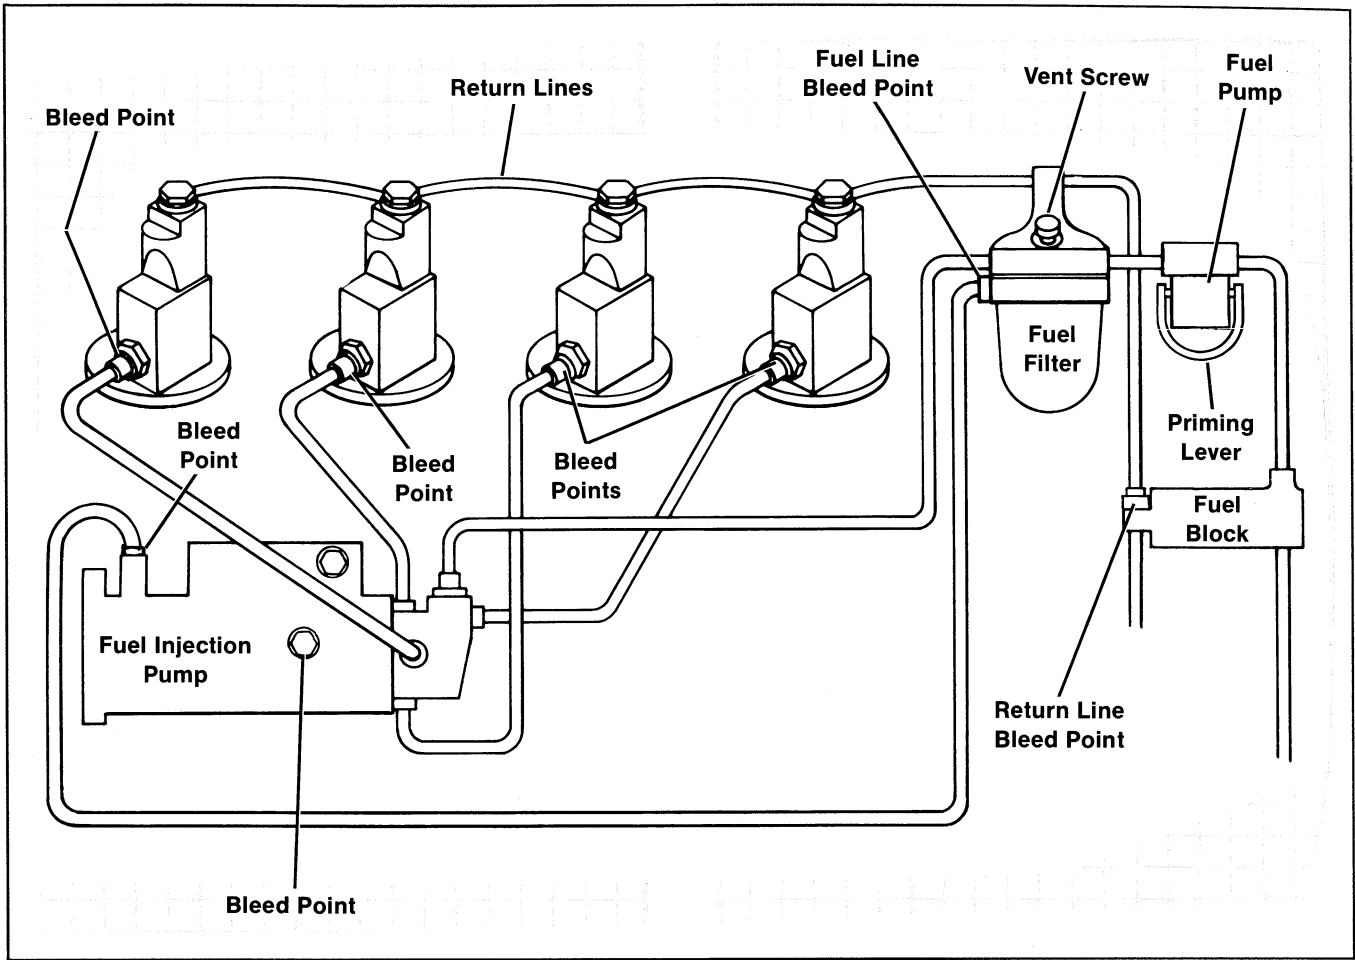

Figure 3-4. Bleeding Fuel System- Perkins
1. Loosen the vent screw on the fuel filter. See Figure 3-4.